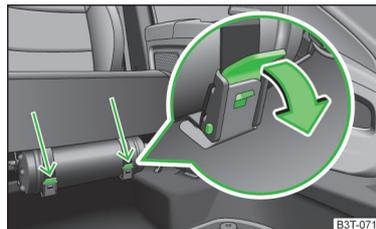

Fig. 177 Fire extinguisher
- Loosen the two straps by pulling the buckles in the direction of the arrow » Fig. 177.